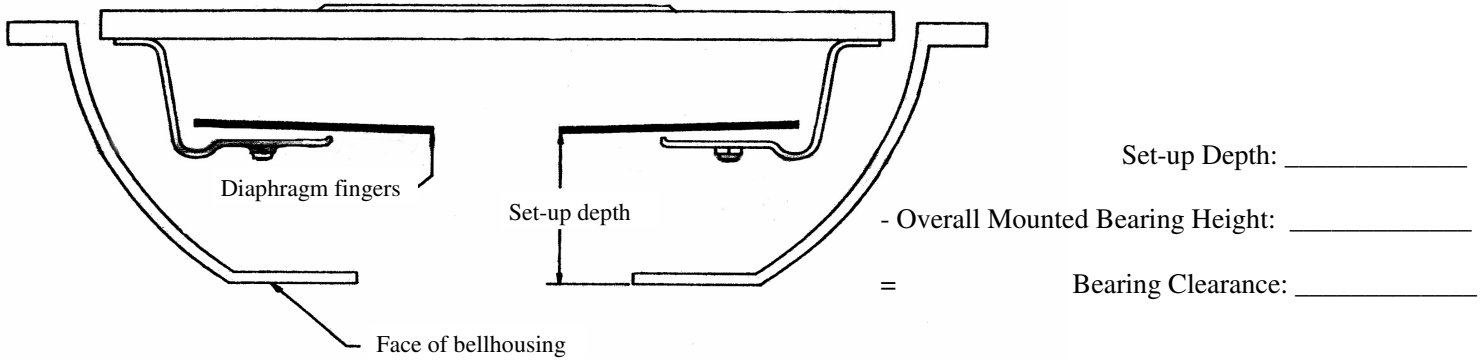

Figure 1: Set-up Depth Measurement
2. Check the release bearing clearance. If the clearance is not within the limits, contact your local Quarter Master distributor for a longer or shorter replacement piston. Refer to Figure 1 and Table 3.
3. Install the release bearing in the bellhousing using the (3) #10-24 x 5/8 flathead screws provided.